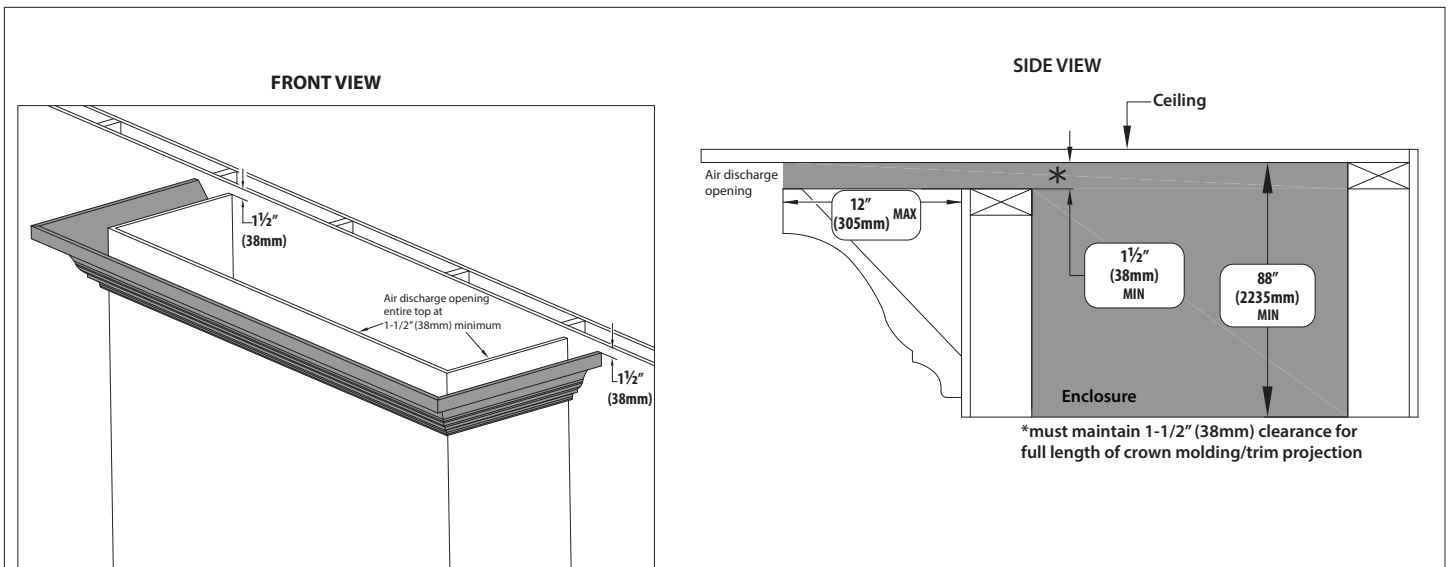

Figure 3.21, Top Vented (all 3 sides) Cavity Crown Molding Installation
- Figure 3.21 on the following page shows the installation of crown molding or similar trim work that goes up to the edge of the air discharge opening. 12" (305mm) is the maximum length of the molding or trim projection and you must maintain 12" (305mm) clearance for the full length of crown molding/trim projection. This molding or trim cannot decrease the minimum opening requirement.